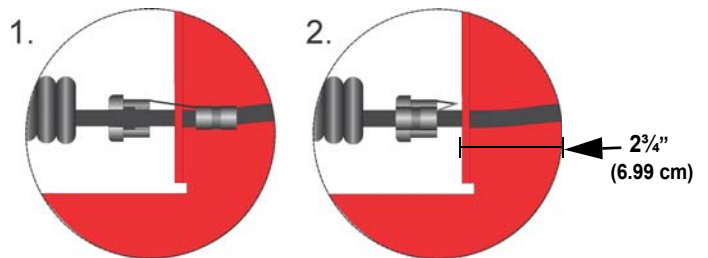

Figure 8 Strain Relief Clip Installation
- Attach the strain relief clip to the microphone cord. The strain relief clip should have about 2 3/4" (6.99 cm) of microphone cord through it. See Figure 8.